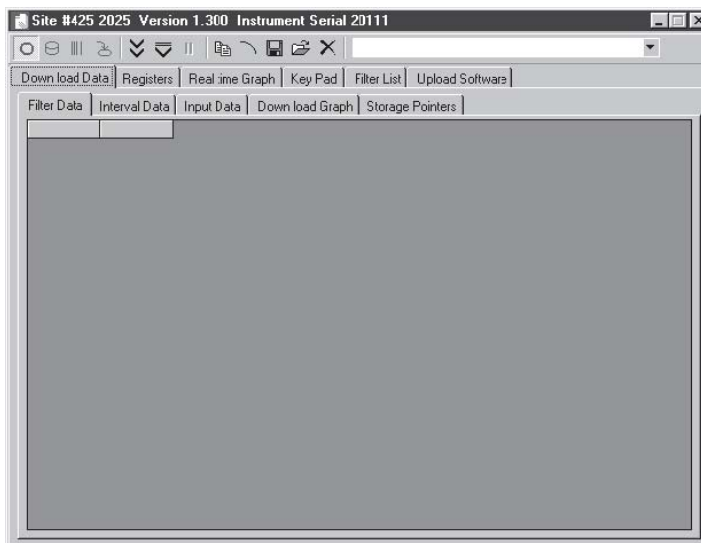

Figure 23: RPCComm Downloading Data Interface
6.4.3.2.3 Press the Telephone Icon within the program to connect to PM_{2.5} Sampler. The icon is the sixth one counting from left to right. Note: placing the cursor over the icon will give a description of the action associated with the icon. (See Figures 23 & 24)
6.4.3.2.4 Filter, Interval and Input data will all be downloaded. Once connected press "Download selected data from storage pointer" (see Figures 23 & 24).
6.4.3.2.5 Insert PM_{2.5} flash drive in an open USB port on the site computer. After downloading press the Disk Icon (Figure 23 & 24) to save the data. Save the data to the PM_{2.5} flash drive for the appropriate instrument and location (HA3 & HA6).